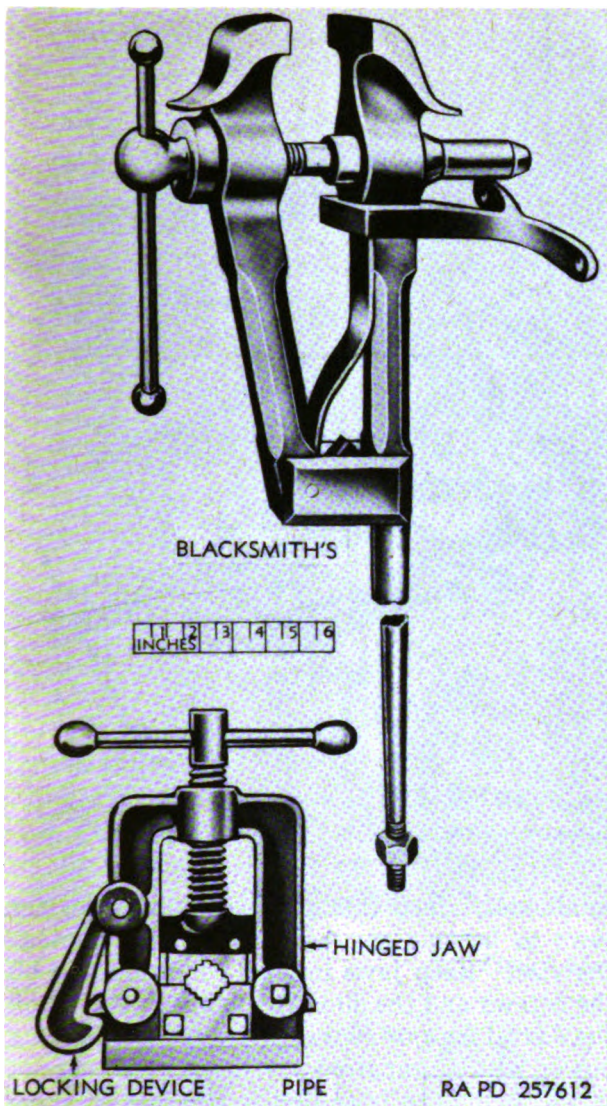

Figure 142. Blacksmith's and pipe vises.
d. Blacksmith's Vise. The blacksmith's vise (fig. 142) is used for holding work that must be pounded with a heavy hammer. It is fastened to a sturdy workbench or wall, and the long leg is secured into a solid base on the floor.
e. Pipe Vises. A pipe vise (fig. 142) is specifically designed to hold round stock. The vise shown has a capacity of 1 to 3 inches. One jaw is hinged so that the work can be positioned and then the jaw brought down and locked. This vise is also used on a bench. Some pipe vises are designed to use a section of chain to hold down the work. Chain pipe vises range in size from $\frac{1}{8}$ to $2\frac{1}{2}$ -inch pipe capacity up to $\frac{1}{2}$ to 8-inch pipe capacity.